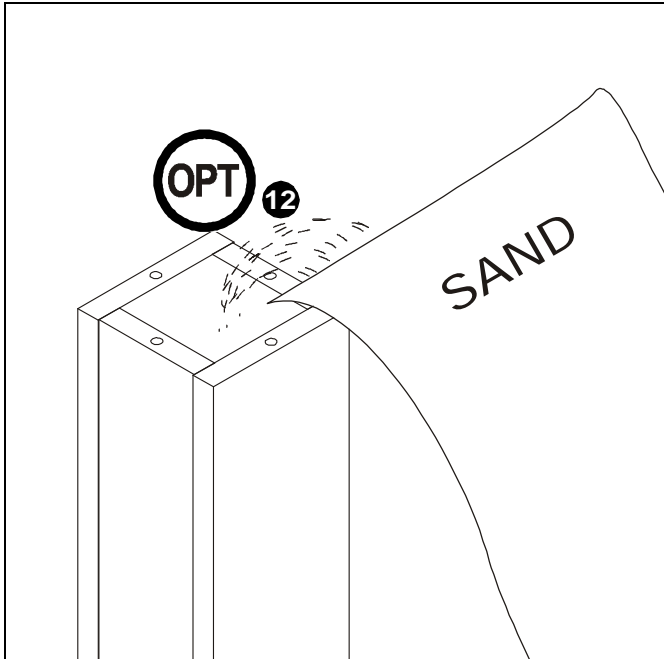

Figure 4
12. (Optional) Pour sand or rock salt into the bag as desired or until the bag is full. Leave enough room to tie a knot at the top of the bag to keep sand from leaking. (See Figure 4)